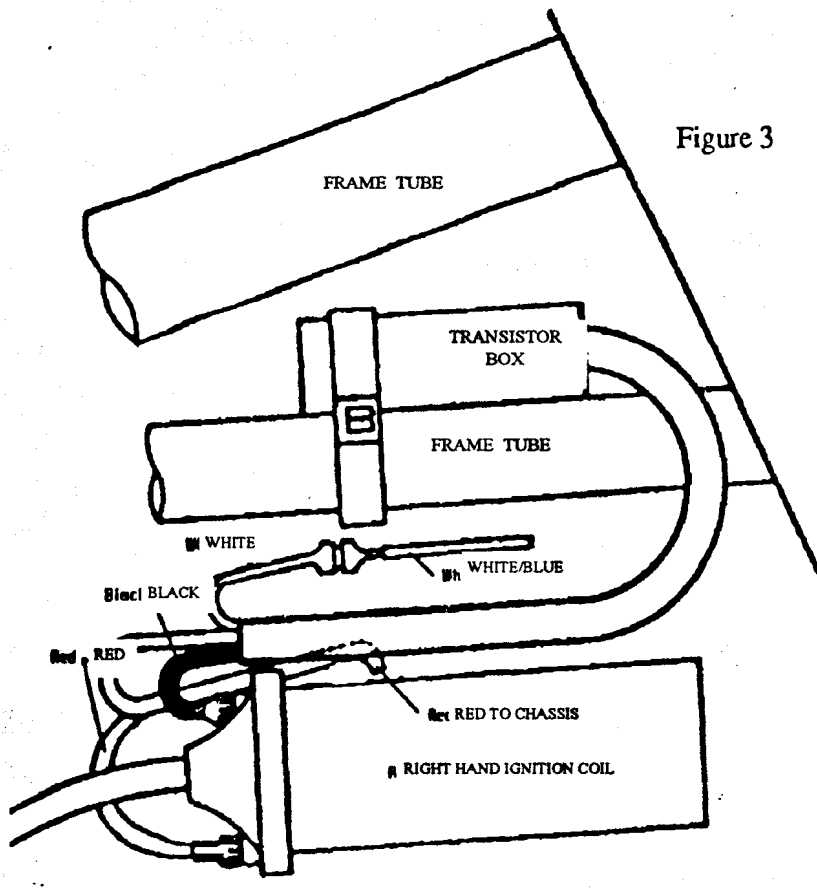

Figure 3
- 14) Fit the transistor box to the frame tube with the plastic strap (supplied), with the long wires to the right-hand front side and the two short wires to the left. See Fig.3.